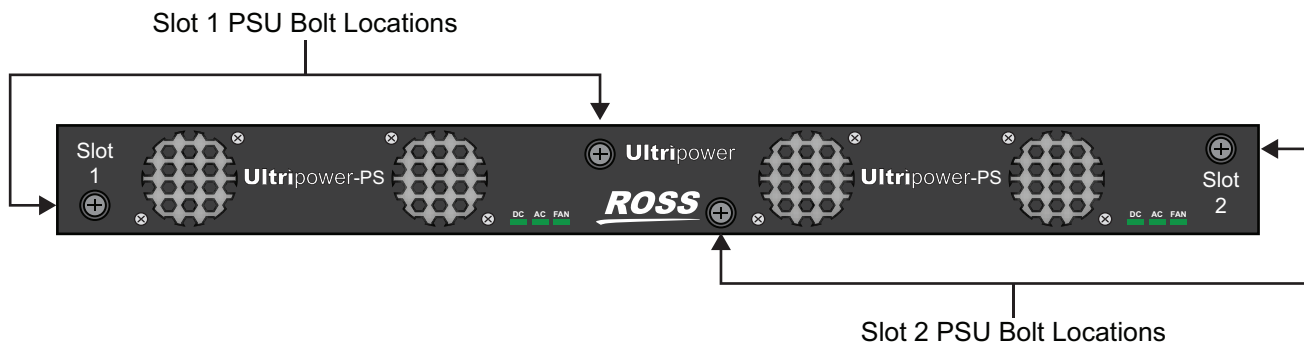

Figure 12 Ultripower Front Panel — Location of Screws on the PSU Modules
2. Disengage the two retaining bolts that affix the module to the chassis. Note that the bolts are not removable. Refer to **Figure 12** for the bolt locations.